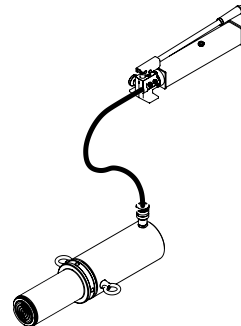

Figure 3 - Illustration to bleed air from system
1. Place pump at a higher elevation than the hose and ram as shown in figure 3 below.